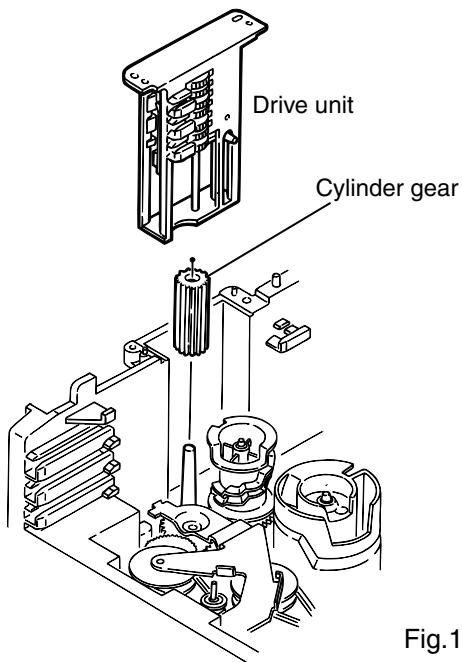

Fig.16
3. Pull out the drive unit and cylinder gear(See Fig.16).